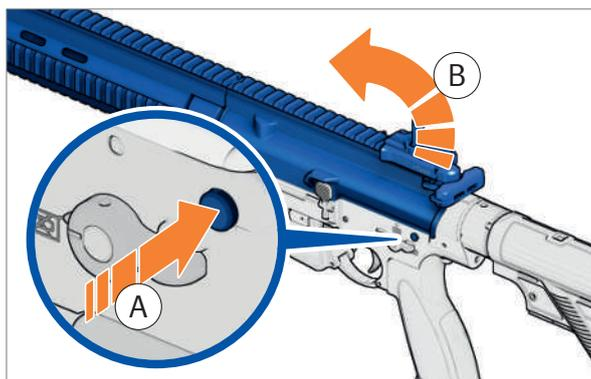

Fig. 93: Push in rear locking pin
2. Push rear locking pin in to the right and pull out as far as disassembly position (*Fig. 93*).
3. Fold upper receiver upwards (*Fig. 93*).